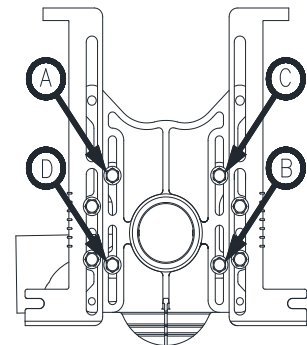

Fig. 5
5. Remove the faceplate/feet from trim kit boxes and align the faceplate slots with the gasket and fitting holes. Using four 1/2" [13mm] bolts from the Fitting & Faceplate hardware bag, secure the bolts with a ratcheting wrench and snug tight, tightening them in the pattern shown (A and D). See Fig. 5